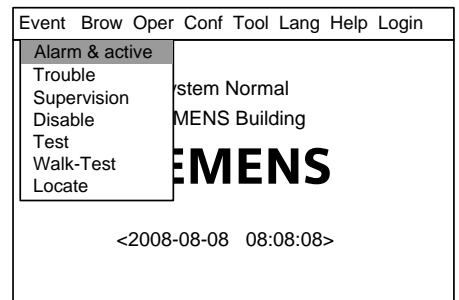

Fig.13-1
1. Press “Menu” to browse the main menu (Fig. 13-1).